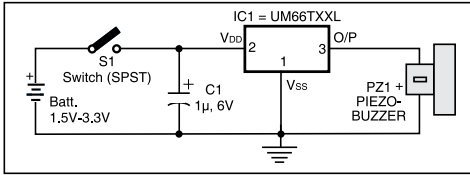
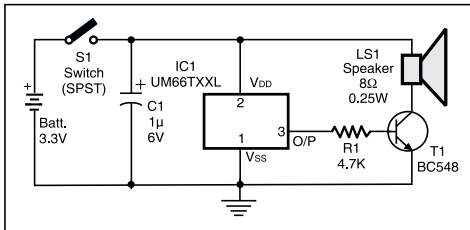

Fig. 1.2: Simple melody player
Fig. 1.3: Melody player using a speaker
This circuit (Fig. 1.2) for driving a UM66TXXXL (repeat mode) can directly drive a piezo buzzer element using a 1.5 to 3 volts battery (i.e., one to
The circuit (Fig. 1.3) of the melody player using a speaker is almost the same as that of simple melody player shown in Fig. 1.2, except that a transistor is used as a driver to increase the drive capability for sourcing higher current for the speaker. Resistor R1 is selected so
**Modification of circuits for using UM66TXXS (single shot):** If you are using the single shot version of the melody generator (suffix S), then the circuits in Figs. 1.2 and 1.3 need to be slightly modified as follows: